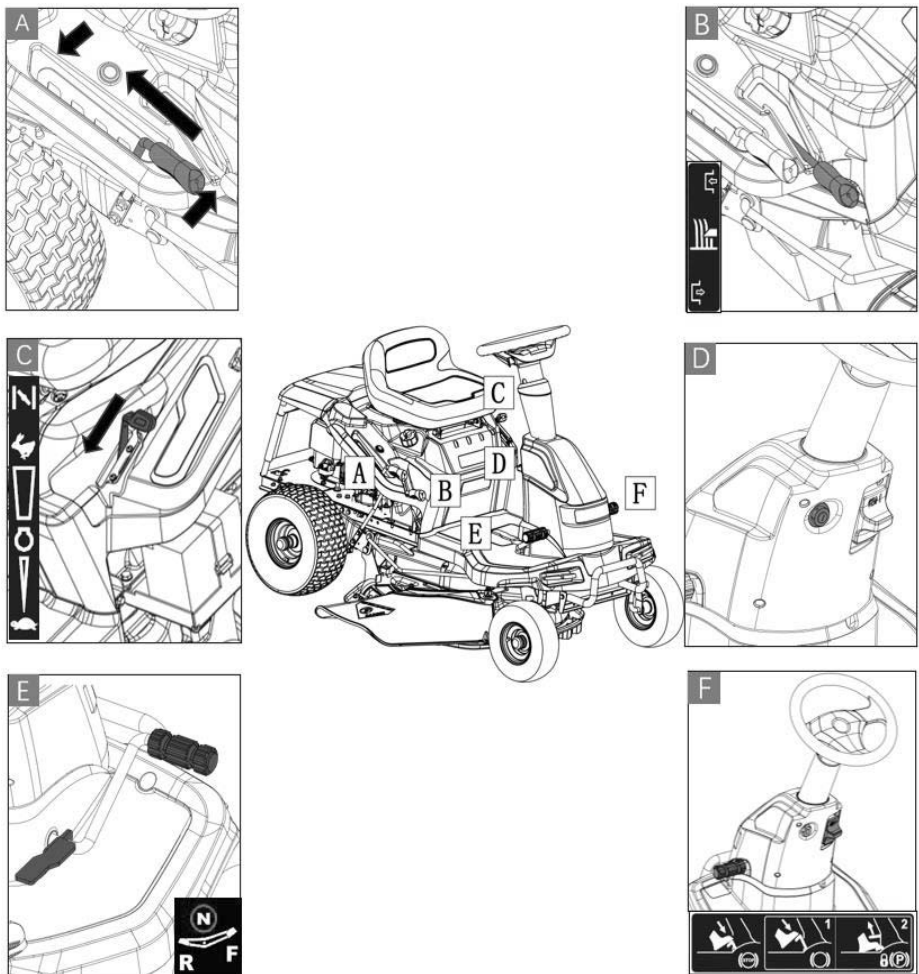
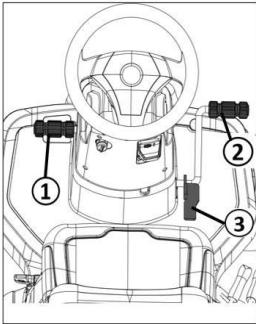

Figure 17
Figure 21
The ride on mower controls are described in the following, divided into components A, B, C, D, E and F (Figure 17).
5.1 Controlling the engine speed (Figure 17)
Pushing the controller (Fig. 17 C) increases or reduces the engine speed; in the uppermost position, it engages the choke.
5.3 Brake/Parking brake (Figures 17 F & 20)
Forwards	Press the front pedal (refer to Fig. 17 E and Fig. 21, ②) to drive forwards.
Reverse	Press the rear pedal (refer to Fig. 17 E and Fig. 21, ③) to drive backwards. Note: The speed is limited when the mower mechanism is switched on. Mowing in reverse(see chapter 7.6.2 "Mowing in reverse", page 23)
- 1. Release the parking brake (Fig. 17 F).
- 2. Select the direction of travel (Fig. 17 E).
Precondition: The engine is running and the engine speed controller (Fig. 17 C) is in the operating position (see chapter 7.4 "Starting and shutting off the engine").